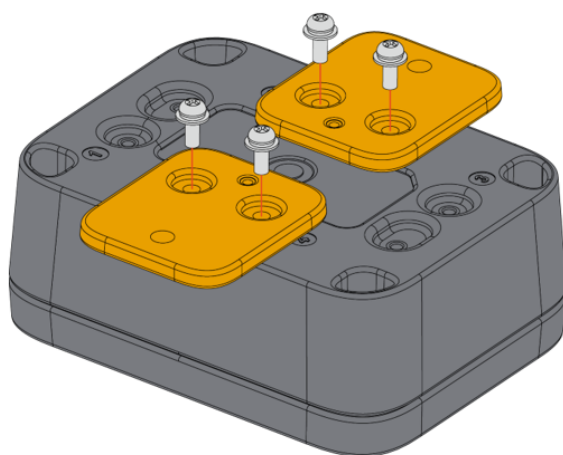

Figure 17: Fixing the wall mount on the enclosure
2. Fix the wall mounts marked with the letter **D** on the WisBlock Unify Enclosure using four (4) pieces of M3*8 mm head screw with a washer. Place it on fixed positions number **1 & 3** or **2 & 4** of the enclosure, as shown in Figure 17.